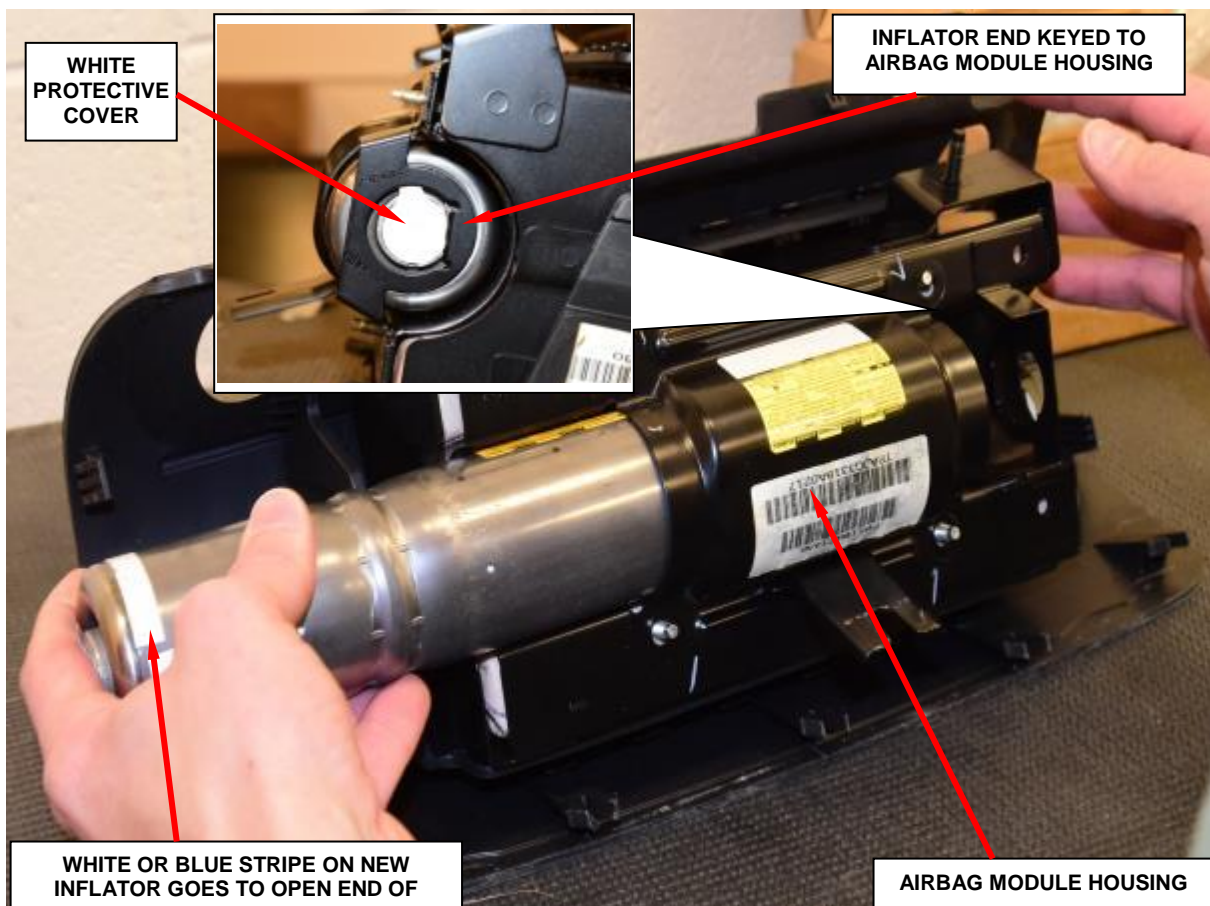

Figure 181 – Inflator Installation
NOTE: The inflator's key **MUST** line up with the housing's key (Figure 181).
NOTE: The inflator is keyed to fit into the housing. Ensure that when the new inflator is inserted, the keyed end goes in first (Figure 181).
- n. Slide the **NEW** inflator into the passenger airbag module housing. The keyed end is inserted first; therefore, the white stripe on the **NEW** inflator will be located at the open end (Figure 181).